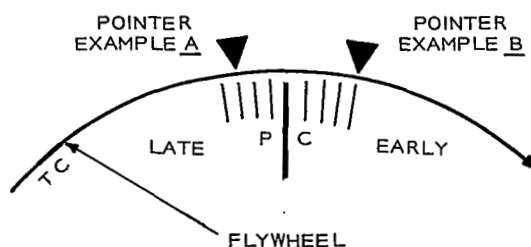

FIGURE 36. TIMING MARKS
**Example A.** The port closing time is *late* by 0.3-inch (7.6 mm) measurement, Figure 36.